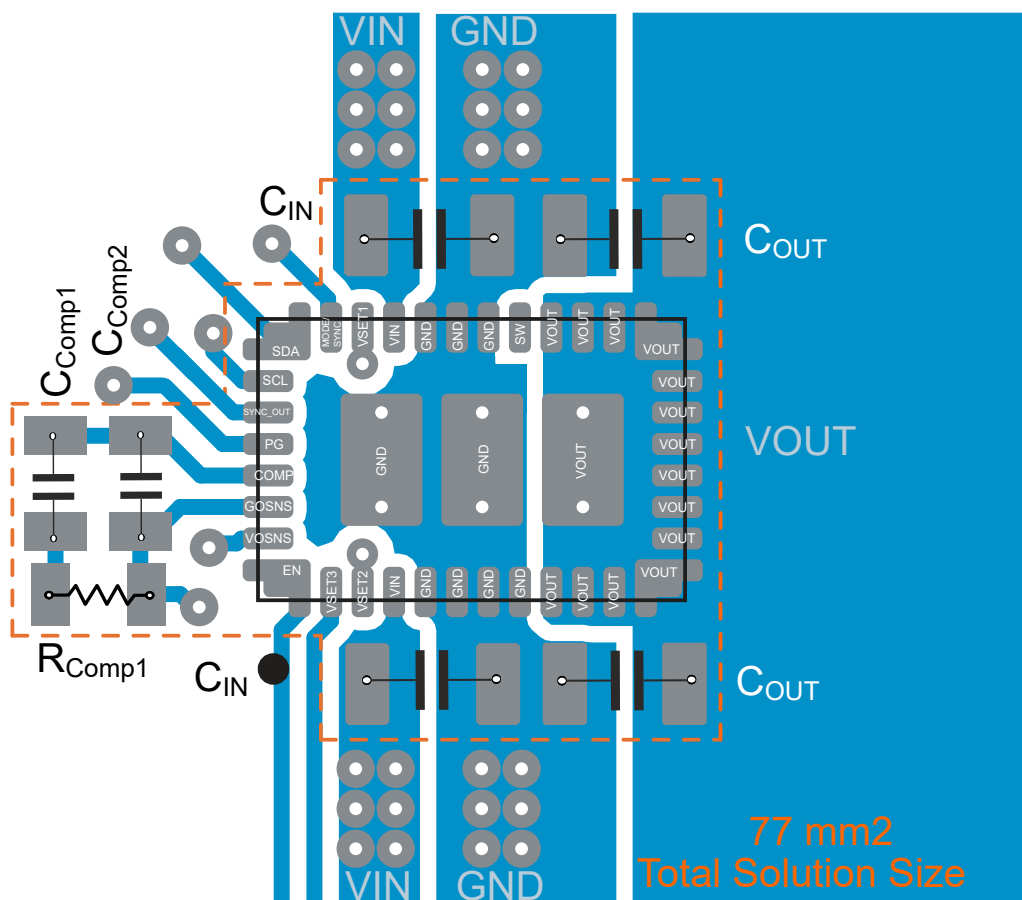

図 9-57. Layout Example
- Refer to Figure 9-57 for an example of component placement, routing, and thermal design.